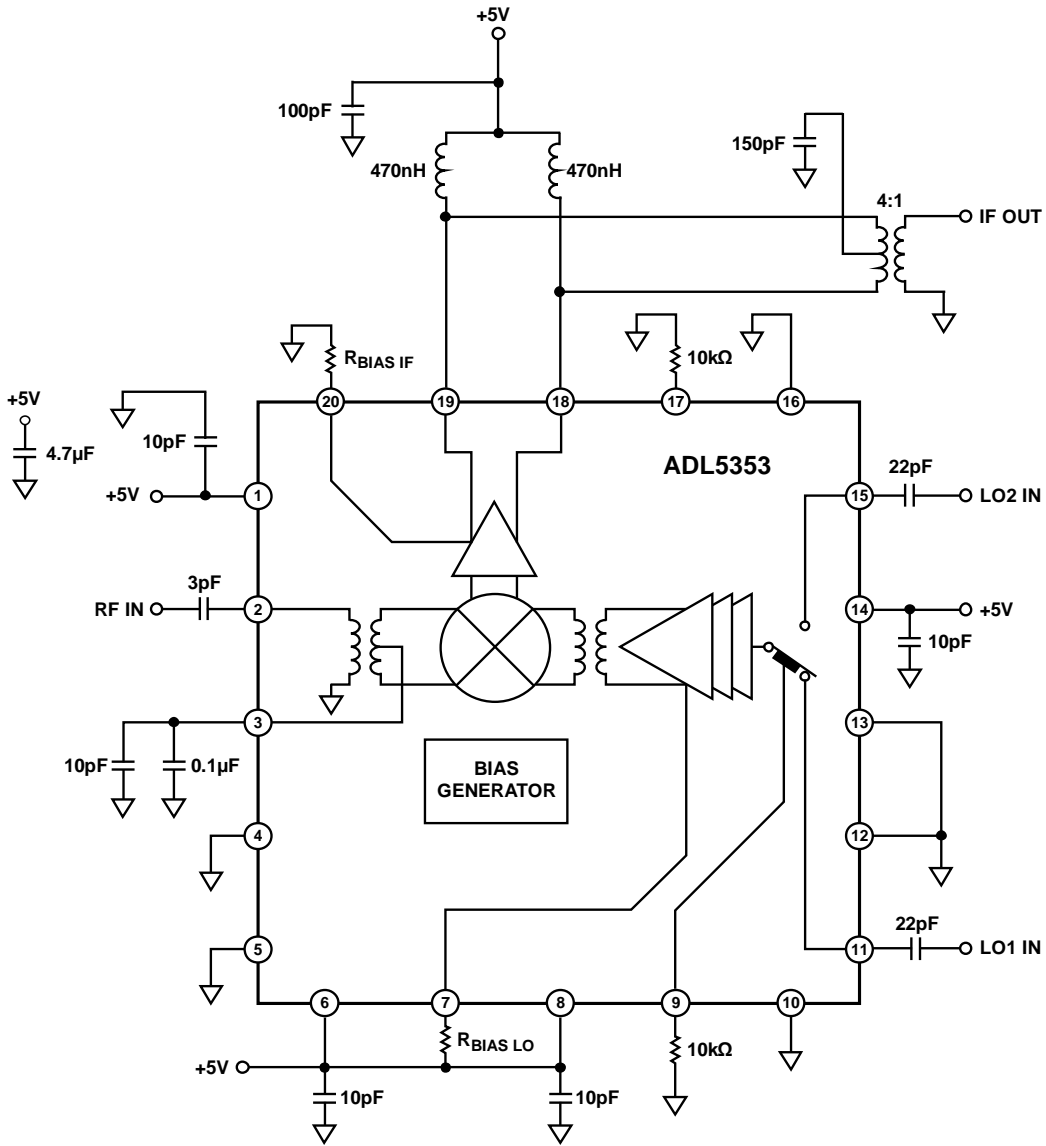

Figure 10. Typical Application Circuit
The ADL5353 mixer is designed to downconvert radio frequencies (RF) primarily between 2300 MHz and 2900 MHz to lower intermediate frequencies (IF) between 30 MHz and 450 MHz. Figure 10 depicts the basic connections of the mixer. It is recommended to ac-couple RF and LO input ports to prevent non-zero dc voltages from damaging the RF balun or LO input circuit. The RFIN capacitor value of 3 pF is recommended to provide the optimized RF input return loss for the desired frequency band.
impedance is needed, use a 4:1 impedance transformer, as shown in Figure 10.